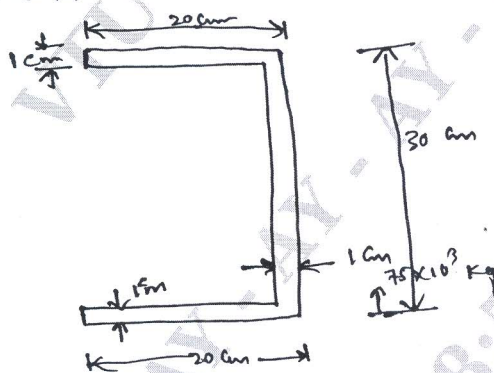

Fig.Q3(b)
b. Find the shear flow distribution and shear centre location for the cross-section shown in Fig.Q3(b). (12 Marks)